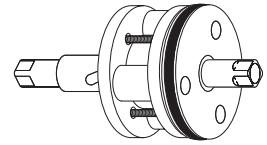

Figure 7:
2. Screw the slotted-head screws into the O-ring plate, and push the drive shaft into the O-ring plate as far as it will go. (**Figure 7**)